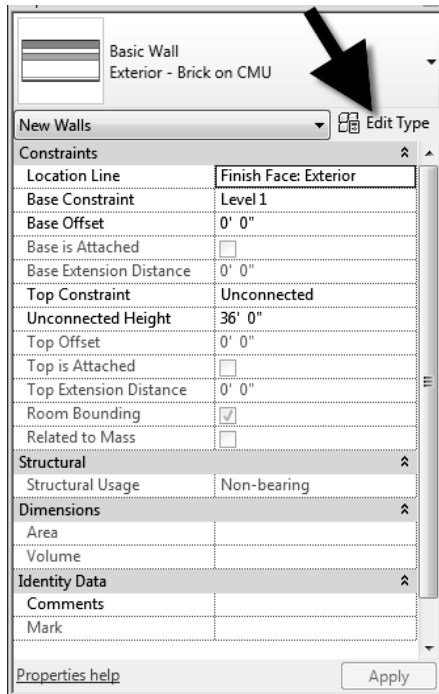

FIGURE 3-2.3 Properties Palette
5. Click the **Edit Type** button on the Properties Palette (Fig. 3-2.3).